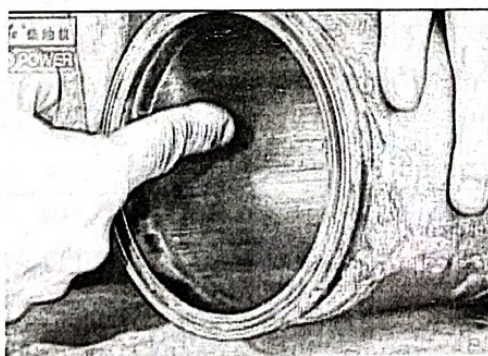

Fig3-19 Check Liner and Piston
5.4 Check if there is the cinch marks on the liner and piston. Check if the clearance of piston ring is correct (see Fig3-19).